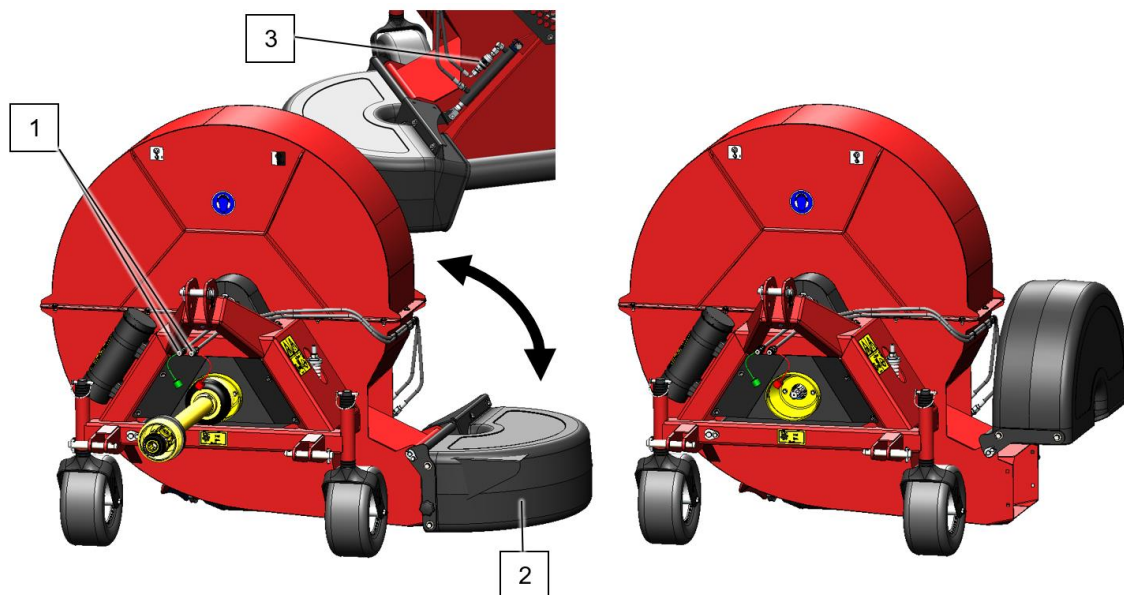

Fig. 9
By using the hydraulic connection ((1) Fig. 9), the position of the reverse spout (2) can be defined.